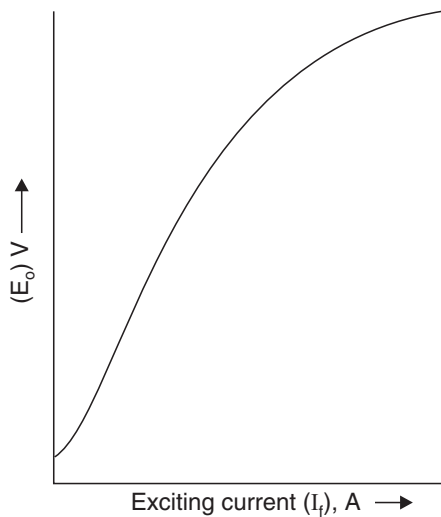

Fig. 30. Open-circuit characteristic of a separately excited generator.
- If the generator is run at constant speed with the main switch open, and the terminal voltage is noted at various values of exciting or field current then the O.C.C. shown in Fig. 30 can be plotted. This is also referred to as the 'magnetisation curve' since the same graph shows, to a suitably chosen scale, the amount of magnetic flux, there being a constant relationship (depending upon speed of rotation) between flux and induced voltage.